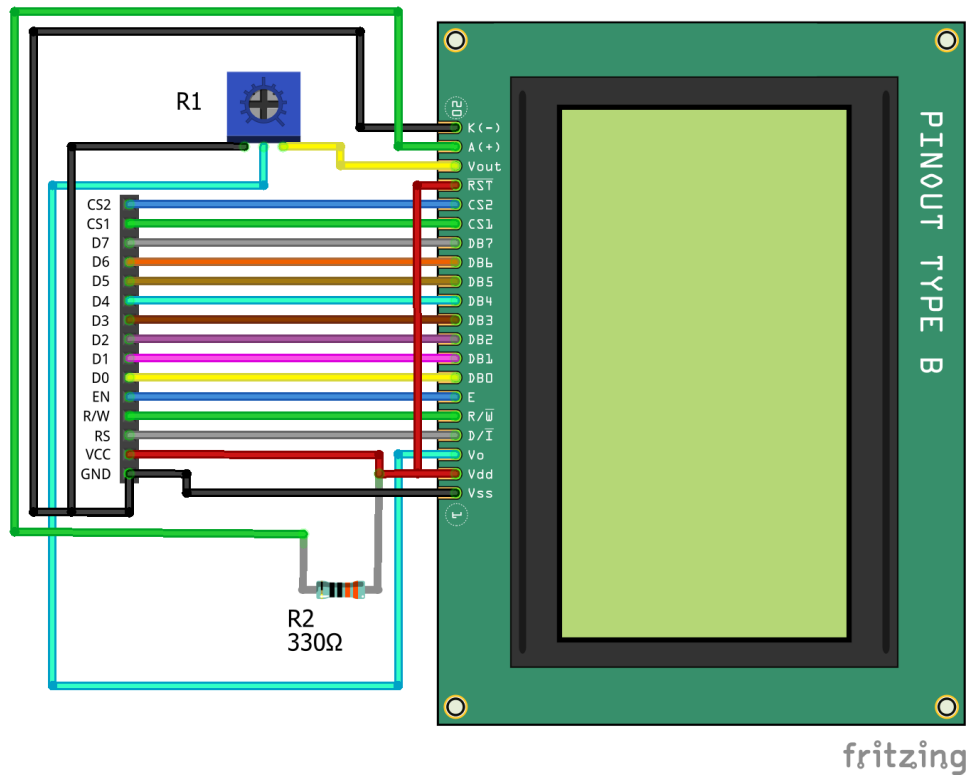

Figure 1: Connections for GLCD
3. Interface GLCD with ATmega 2560 using GPIO1 header available on eYFi-Mega board. (You are free to use any pins from GPIO1 header). For Interfacing refer the Figure 1 and for example code, refer to the sample code provided in **Resources.zip** file.